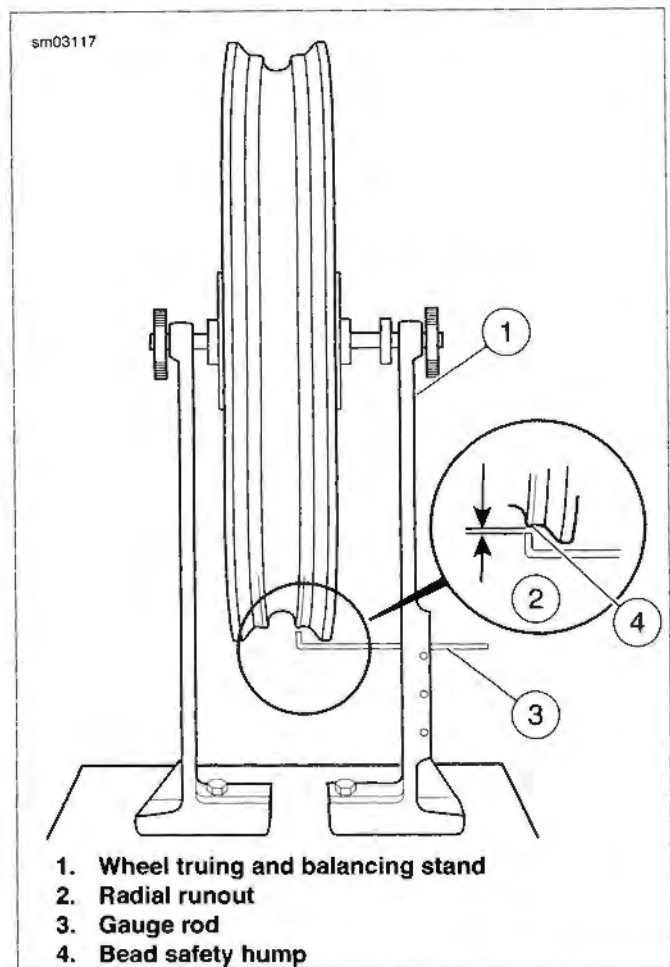

Figure 2-25. Checking Radial Runout
- See Figure 2-25. With the wheel mounted in WHEEL TRUING STAND (Part No. HD-99500-80), adjust the truing stand gauge (3) near to the rim's tire bead safety hump (4). If using a dial indicator, place the tip on the safety bead hump.